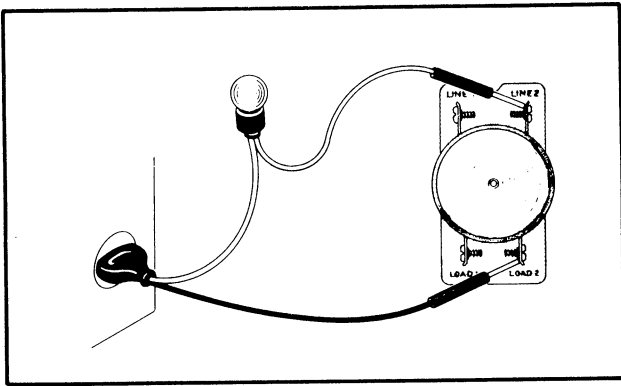

Figure 10C
TIMER, Mechanical Type, *Figure 10C*
4. Place probes on terminals Line 2 and Load 2. Lamp should light. Continuity should show if you are using an ohmmeter, *Figure 10C*.
7. Place probes on Line 2 and Load 2, *Figure 10C*. This time lamp will NOT light, and continuity will NOT exist using an ohmmeter.